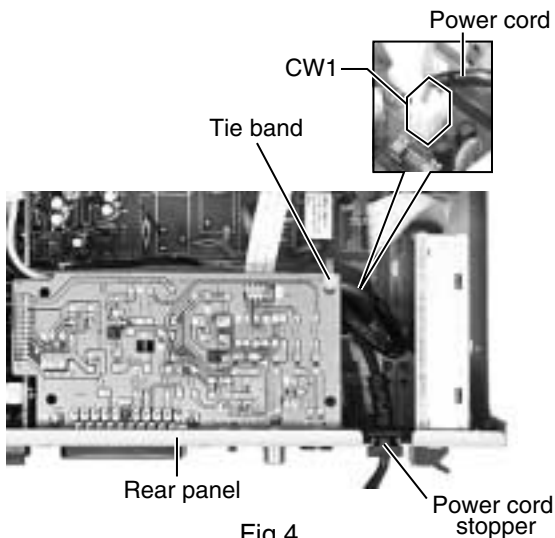

Fig.4
■ Removing the power cord (See Fig.4)